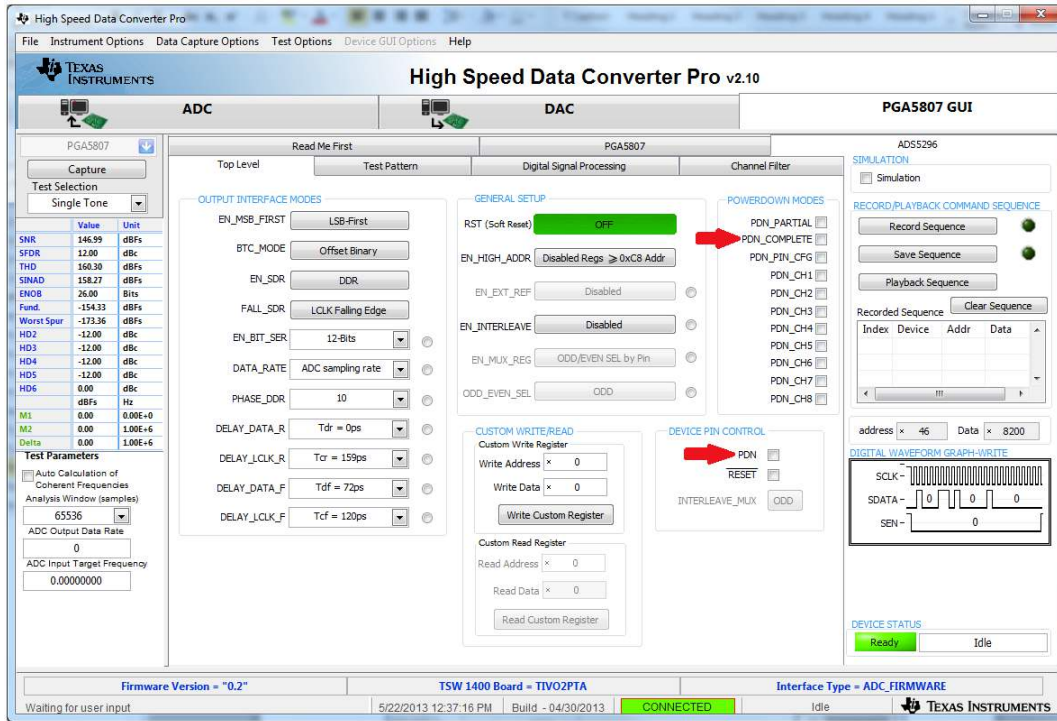

Figure 31. ADS5296 Tab of the PGA5807 GUI
As shown in Figure 31, the ADS5296A tab contains all controls pertaining to the ADS5296A device installed on the EVM.
- Verify that communication between the PGA5807A EVM and the PGA5807 GUI is established by toggling either the **PDN_COMPLETE** checkbox or the **PDN** checkbox, as indicated on Figure 31. Checking either box should make +5-V power supply current drop from ~650 mA – 750 mA to ~350 mA – 450 mA. If the DC current is approximately 480 mA, with both power down boxes unchecked, it indicates that the ADS5296A is not receiving the sampling clock. Please ensure that the 3-pin headers are configured as described in Section 3.2. Before continuing, ensure that both power down boxes are left unchecked. At this point, the GUI is confirmed to be communicating correctly with the EVM and testing can begin.